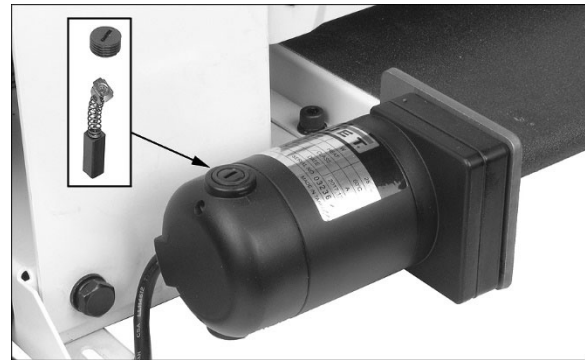

Figure 9-4
2. Unscrew and remove cap with flat blade screwdriver. See Figure 9-4.